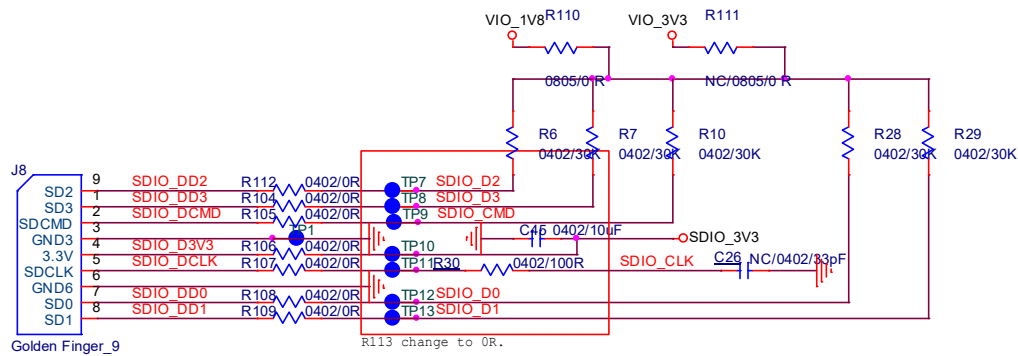

Figure2. WiFi verification connection interface to Host SDIO as using SDIO2.0
- ❖ Refer to Figure2 SDIO pin definition connects the J8 interface of AP6745 evaluation board to Host SDIO control interface.